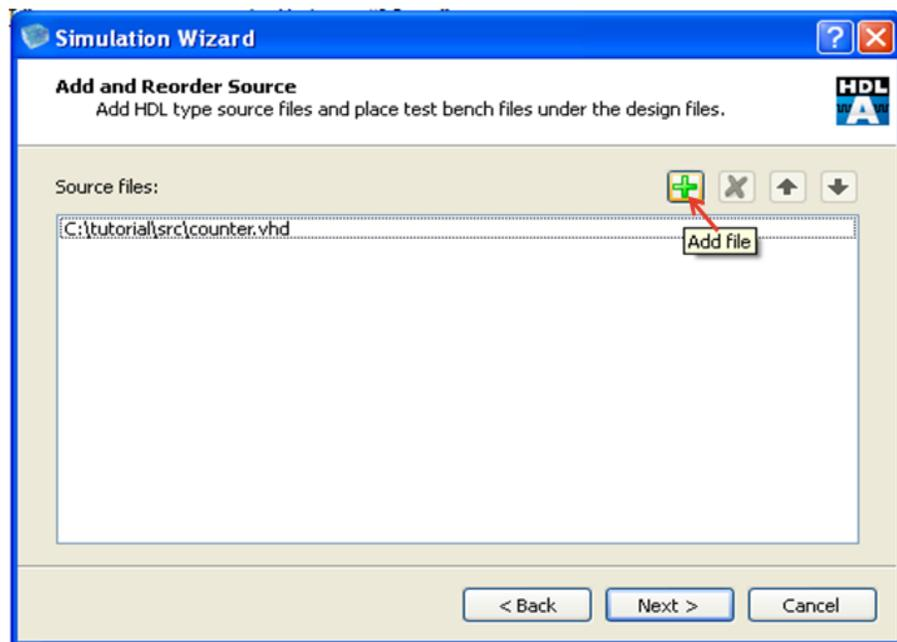

Figure 10-4 : Auto added RTL design Files
3. All the RTL design files in the iCECube2 project would be automatically added under the source files section as shown in Figure 10-4. Select “+” icon to add “*count_tb.vhd*” test bench file.